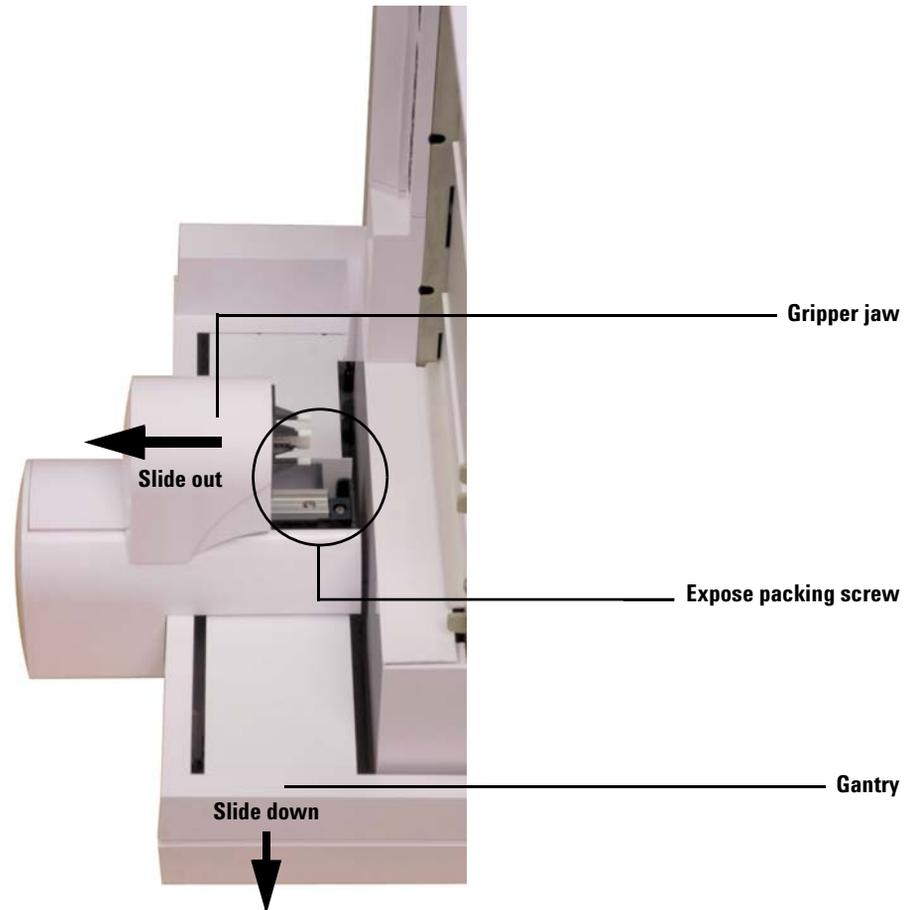

Figure 10 Exposing the packing screw in the gripper assembly area
- 7 Set the Sample Tray on a secure, flat surface. Position the instrument on its end so the tray mounting bracket faces up. Let the gantry slide all the way down (Figure 10).
- 8 Slide the gripper jaw away from the tray base until the packing screw is accessible (Figure 10).